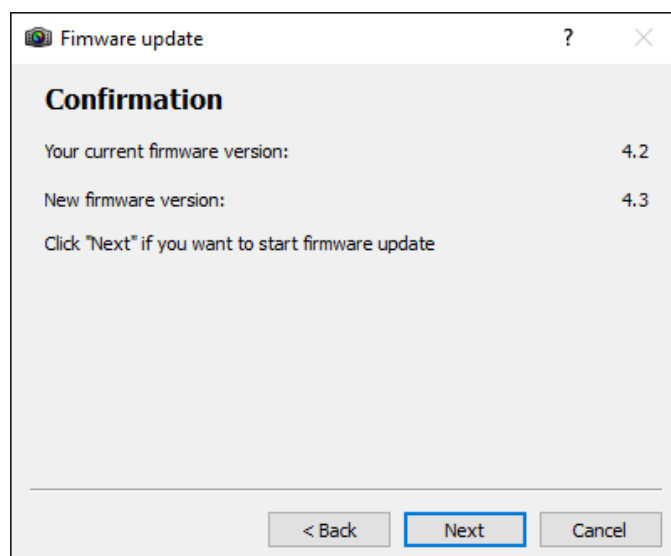

Figure 39 – Firmware update confirmation window
3. The following window would display both current and new firmware, as shown in Figure 39. The confirmation is made by clicking the "Next >" button, and the firmware update would start immediately.